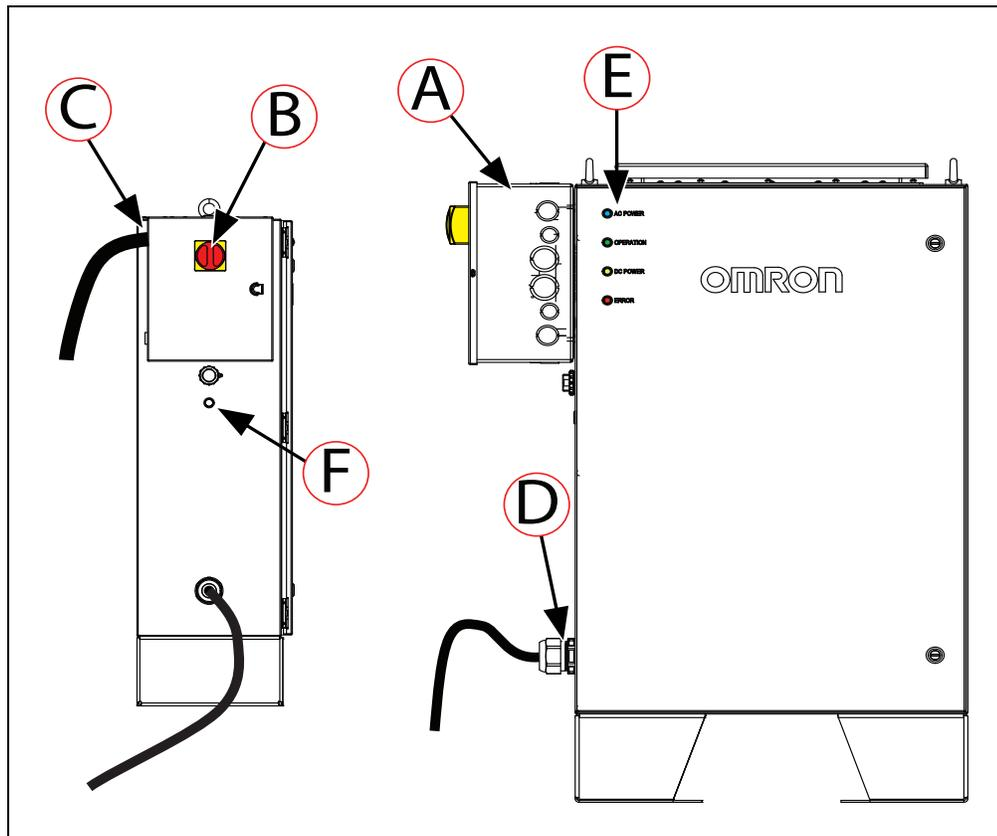
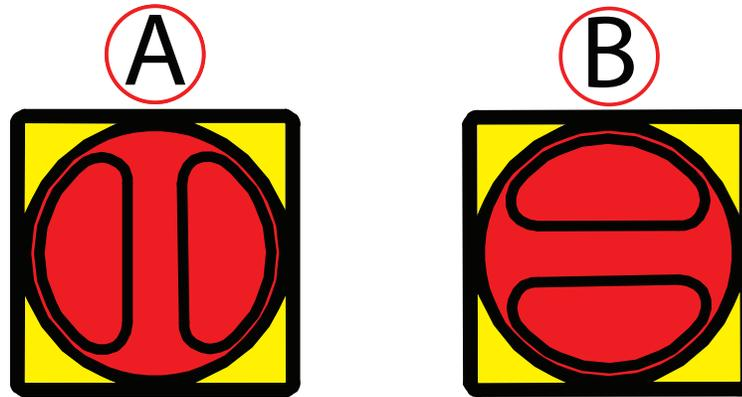

Figure 7-10. (A) Electrician Access Box, (B) Main Disconnect Switch, (C) Input Power Plug, (D) Output Power Plug, (E) LED Indicators, and (F) Push Button
Figure 7-11. Main Disconnect Switch on the Electrician Access Box, (A) ON Position, and (B) OFF Position
- The electrician access box has a main disconnect switch, as displayed in Figure 7-10. When the user turns the main disconnect switch ON, the access door locks automatically, and prevents access to the interior of the electrician access box. This is to block access to the hazardous electrical circuits in the electrician access box.
1. Remove power to the power supply box through the main disconnect switch. Turn the main disconnect switch to off position, see: Figure 7-11.
The power inlet is located at the rear of the electrician access box ((C) in Figure 7-10.). The output power plug is located below the electrician access box, on the left side of the station, as viewed from the front ((D) in Figure 7-11.